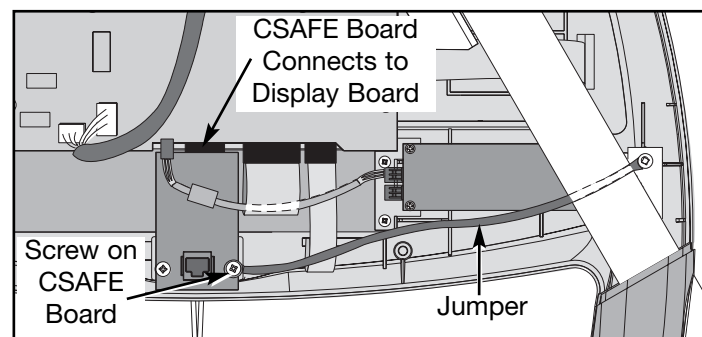

Figure 22
- B. Gently pull the CSAFE board down and out of the display board. See Figure 22.
- A. Gently push the CSAFE board into its connector on the display board. See Figure 22.